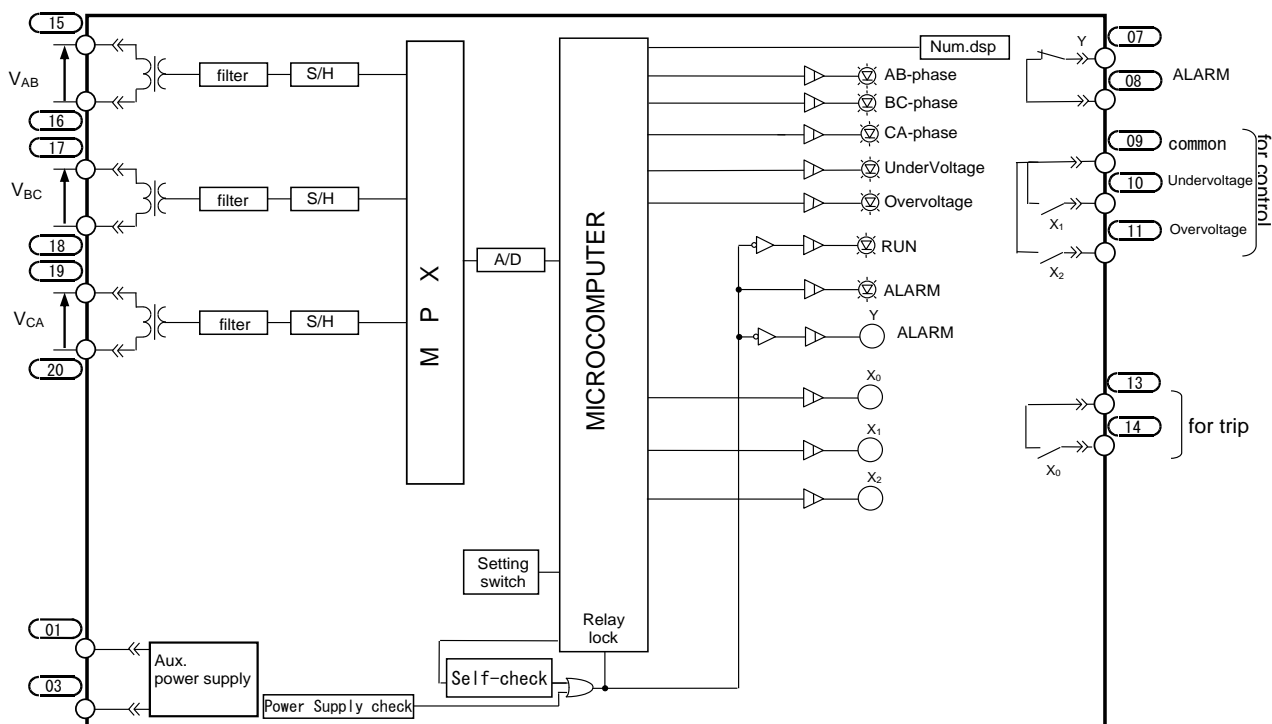

Fig. 5-1 Internal block diagram for CBV2 relay
Fig. 5-1 shows the internal block diagram. The voltage values from power lines go through the voltage transformer (VT), filter circuits and sample hold (S/H) circuits. The multiplexer selects a channel to take the signal and sends it to an A/D converter. The signals are converted to digital signals sequentially in the converter to be sent to the CPU.